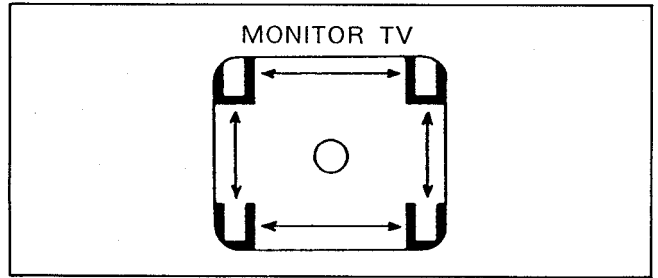

Fig. C13
- Confirm that the monitored picture does not contain Blooming in both High Speed Shutter "ON" and "OFF" modes even if the camera moves as shown in Fig.C13.